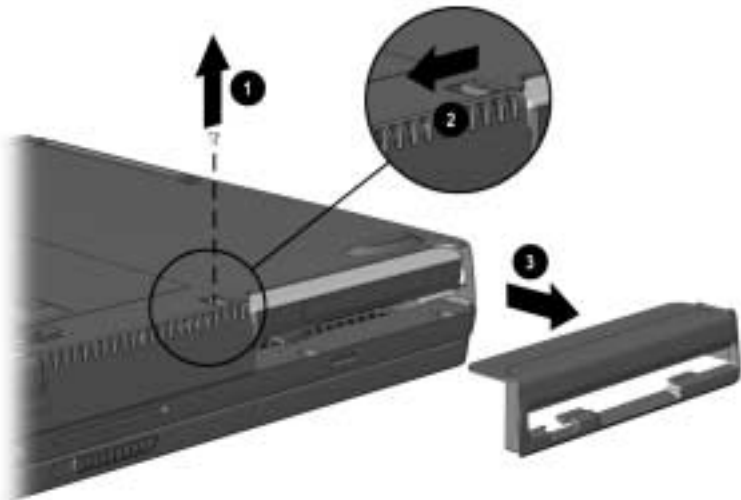

Figure 5-18. Removing the Diskette Drive Bezel
3. (**Armada V300 only**) Remove the screw **1** that secures the diskette drive bezel to the base enclosure (Figure 5-18).